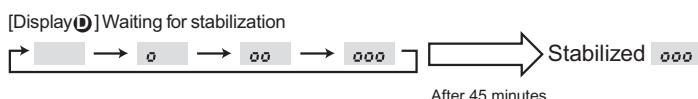

Fig. 8-3
- Press **FILTER** (**↔**) button to confirm. (Fig. 8-3)